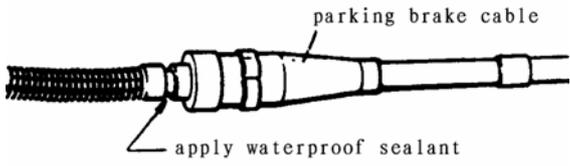

FIG.16-48
- (1) Apply sealant between brake back plate and brake cable, and run parking cable through brake back plate and secure it with clip (FIG.16-48, 16-49)